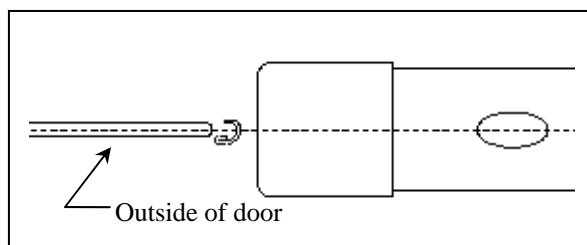

Fig. 1-5
**NOTE:** BEFORE PROCEEDING IT IS EXTREMELY IMPORTANT TO PROPERLY ALIGN THE DOOR EDGE, DOOR EDGE GUARD CHANNEL AND MALLET AS SHOWN IN FIG. 1-5. MALLET TECHNIQUE IS VITAL FOR PROPER INSTALLATION: